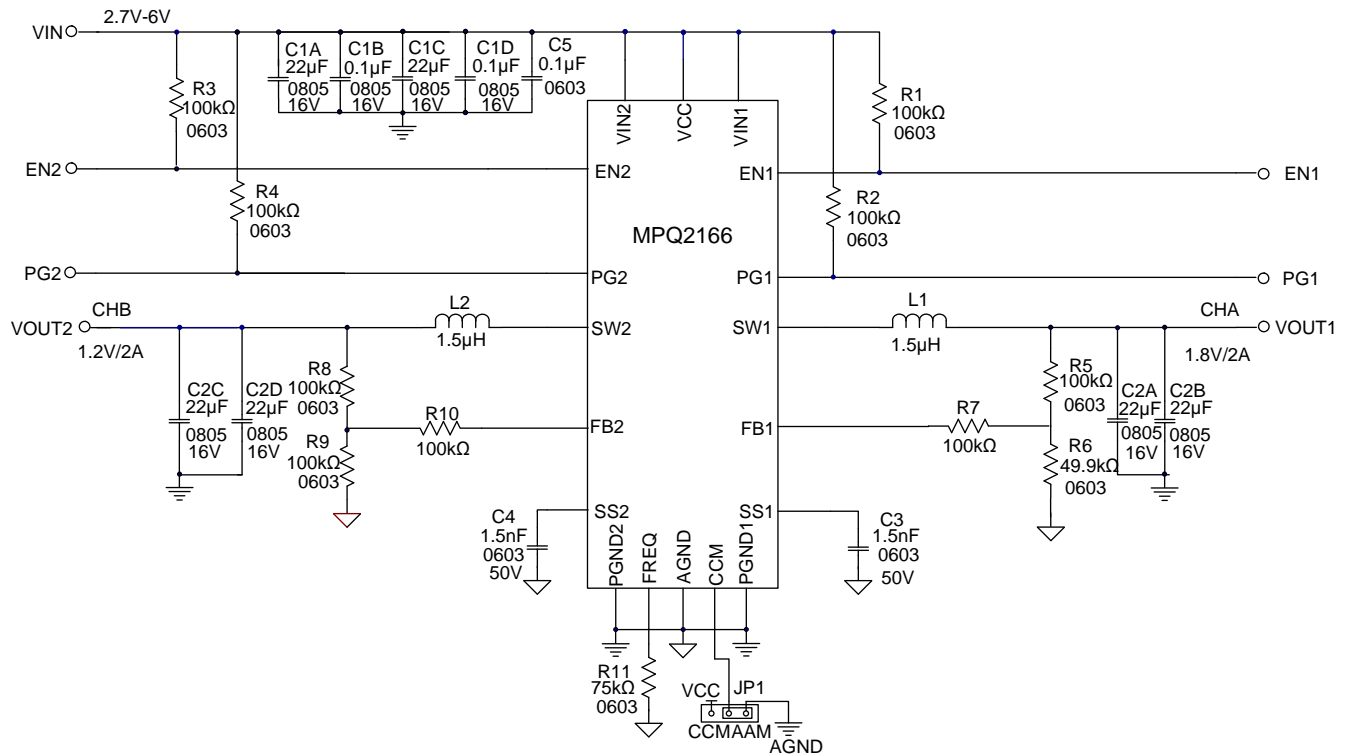

Figure 7: 2A/2A Application Circuit
8) The recommended PCB layout is based on Figure 7.